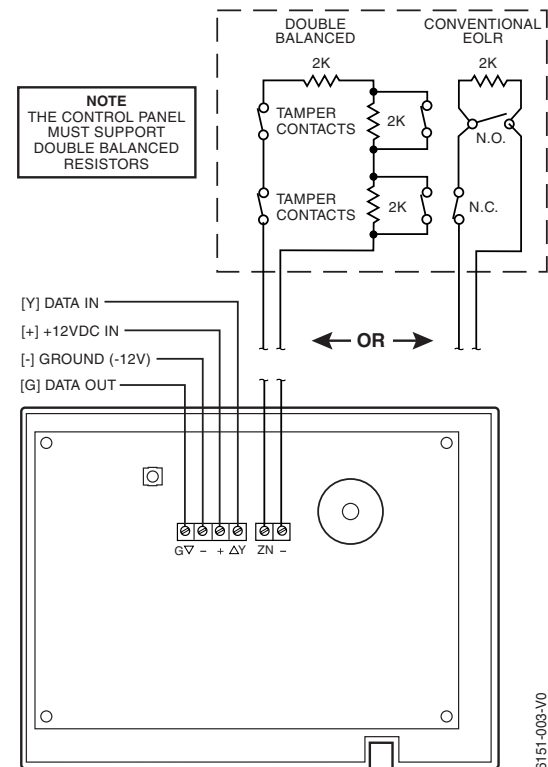

Figure 3. Wiring Details
4. Connect the power/data wires to the four screw terminals on the keypad's PC board marked as shown in Figure 3 and as follows:
5. Connect the wires for the 2K EOLR zone to the screw terminals on keypad PC board as shown in Figure 3 and as follows:
5. By pressing the [1] or [0] key, you can toggle the zone supervision type option. Either conventional EOL resistor supervised zone or double-balanced zones (see Figure 3) may be selected. Enter [1] to select EOLR or [0] to select double balanced (default = conventional EOLR, 1). Consult the panel's installation guide for proper zone type selection. Use the [*] key to advance to the Tamper option. The following will be displayed: